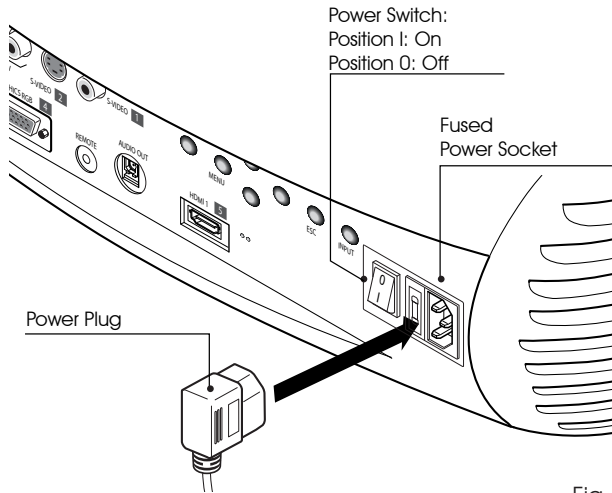

Fig. 12
**CAUTION:** Connect the projector to a power supply with a nominal voltage within the following values: 100-240 Vac, 50/60 Hz. It must be earthed (Fig. 12).